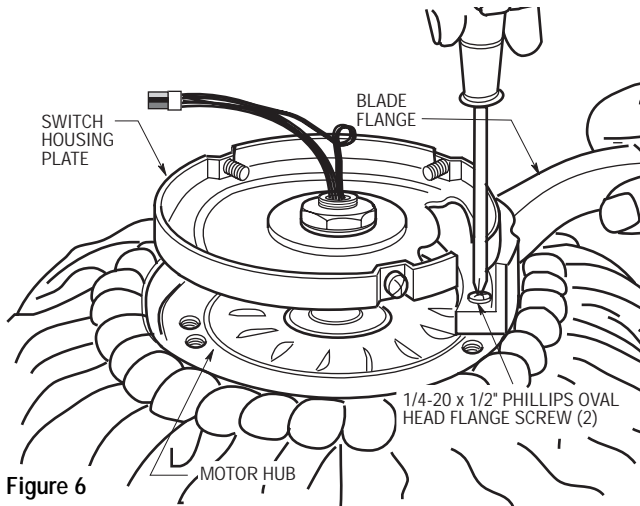

Figure 6
- 10. Rotate the motor hub until the flange screw hole is next to the cutout in the switch housing plate. Loosely attach one blade assembly to the motor hub using two 1/4-20 x 1/2 inch Phillips oval head flange screws. Make sure the screws are **NOT** tightened. (Figure 6.) Repeat this procedure for the other four blade assemblies.